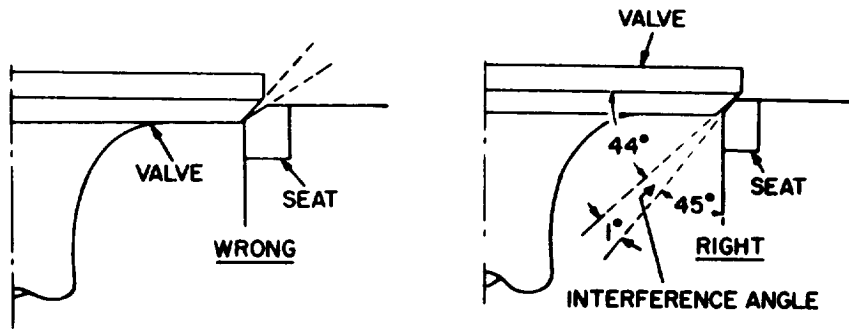

Figure 5-46. Valve Face and Seat Angles
- (1) Properly seated valves are essential to good engine performance. The cylinder head is removable for valve servicing. Do not use a pry to loosen the cylinder head. Rap sharply on the edge with a soft-faced hammer, taking care not to break any cooling fins. A conventional type valve spring lifter may be used when removing the valve spring locks, which are of the split type. Clean all carbon deposits from the cylinder head, piston top, valves, guides, etc. If a valve face is burned or warped, or the stem worn, install a new valve.
- (2) Worn valve stem guides may be replaced from inside the valve chamber. A seal is provided behind the intake valve guides only. The smaller diameter of the tapered valve guides must face toward the valve head.
- (3) Tappets are also replaceable from the valve chamber, after first removing the valve assemblies.
- (4) The valve face angle is 44 degrees. The valve seat angle is 45 degrees. This 1 degree interference angle results in a sharp seating surface between the valve and the top of the valve seat. The interference angle method of grinding valves minimizes face deposits and lengthens valve life. See figure 5-46.
- (5) The valves should not be hand lapped, if at all avoidable, since the sharp contact maybe destroyed. This is especially important where stellite faced valves and seats are used. Valve faces should be finished in a machine to 44 degrees. Valve seats should be ground with a 45-degree stone and the width of the seat bend should be 1/32 to 3/64 of an inch (.79 to 1.19 mm) wide. Grind only enough to assure proper seating.